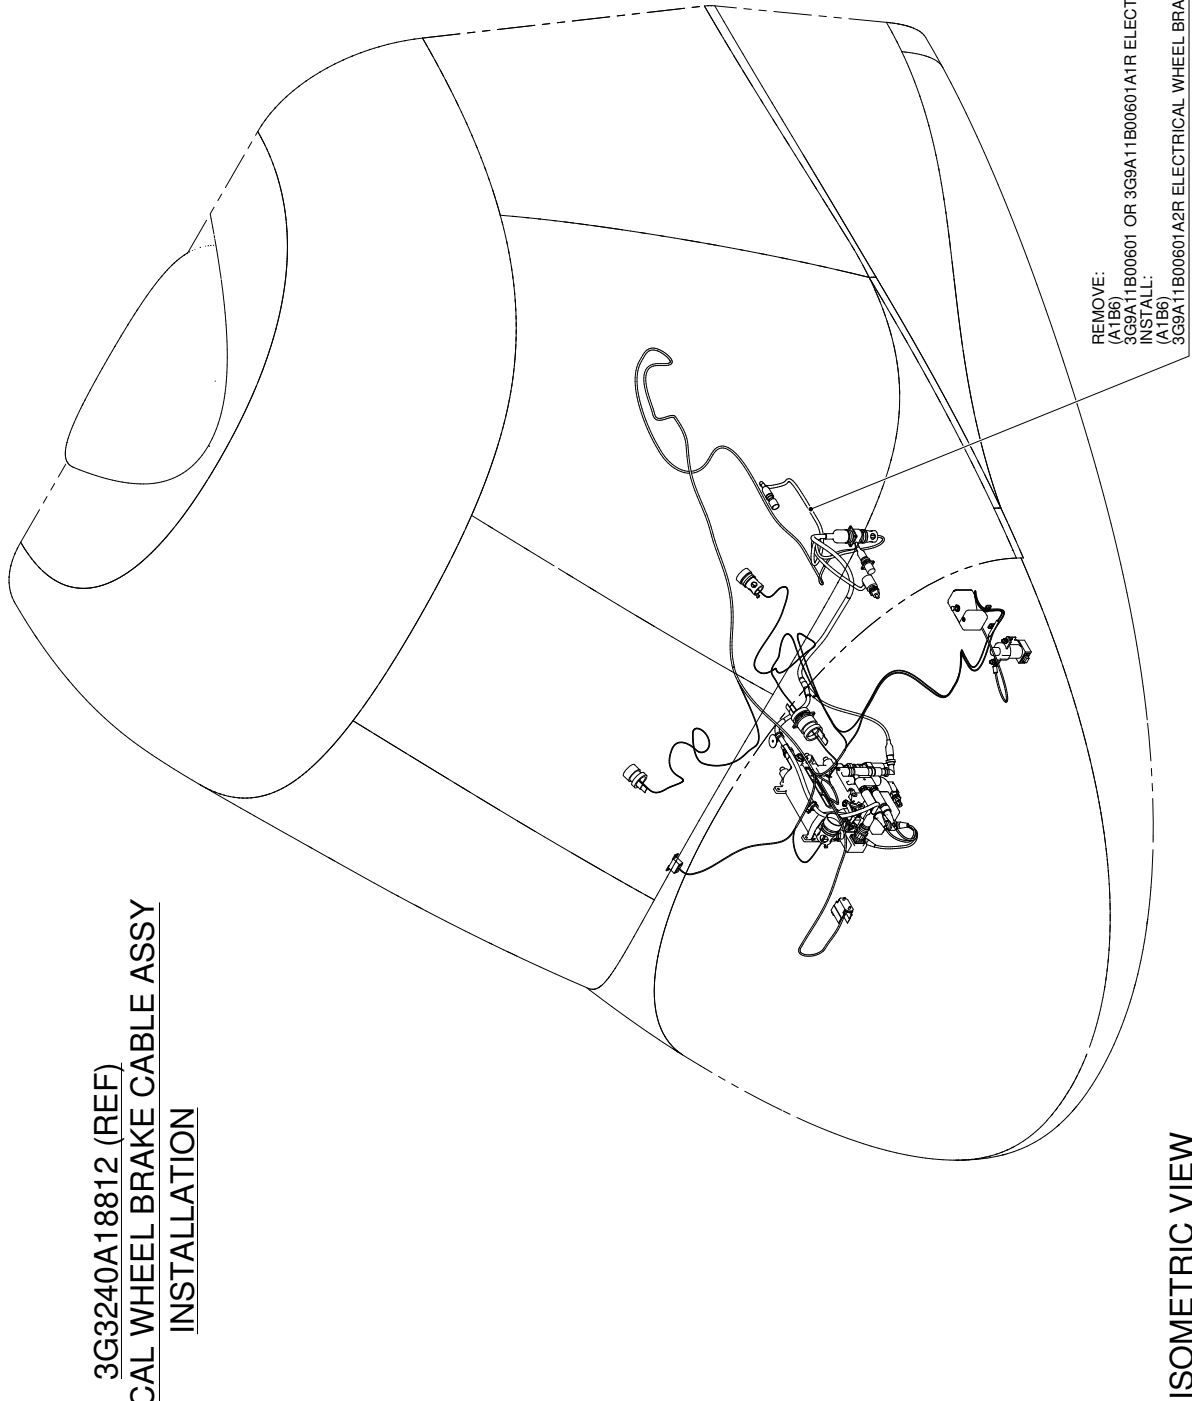

Figure 1
3. In accordance with AMP DM 39-A-06-41-00-00A-010A-A and with reference to Figures 1 and 2, gain access to the area affected by the replacement and perform the following procedure:
- 3.1 With reference to Figures 1 and 2, remove and discard the existing A1B6 electrical wheel brake C/A. Retain existing hardware for later reuse.
- 3.2 With reference to Figures 1 and 2, lay down the A1B6 electrical wheel brake C/A P/N 3G9A11B00601A2R following the existing route and secure the cables using the existing hardware.